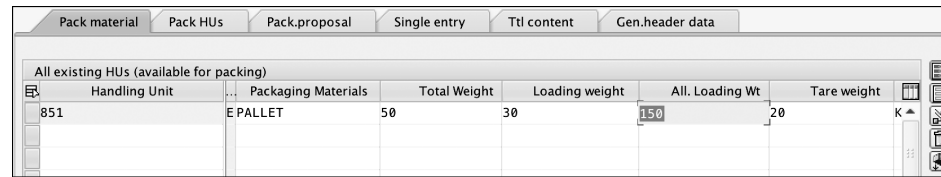

Figure 4.35 Weight of the Packed Handling Unit Updated after Packing
2. After you've selected a packaging material, you need to select the materials and quantities that are to be packed in each handling unit. After packing your materials, the weight of the handling unit is updated with the weight of the packed materials (see Figure 4.35).